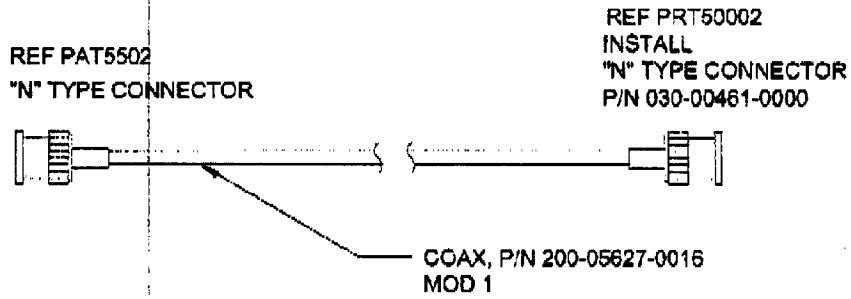

Figure 1
2. Remove the existing TNC connector (PRT50002) from coax cable P/N 200-05627-0016. Replace it with N connector P/N 030-00461-0000 as shown in Figure 1.